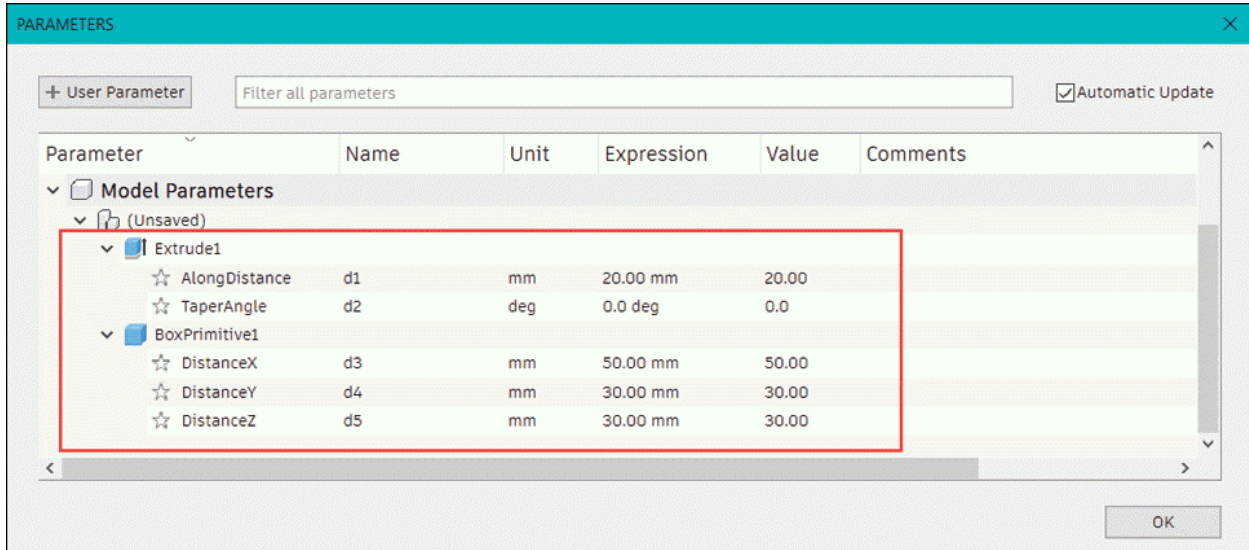

Figure-87. Parameters applied in the model
- Click on desired model feature node to check its parameters, the parameters applied in that feature will be displayed; refer to Figure-87.